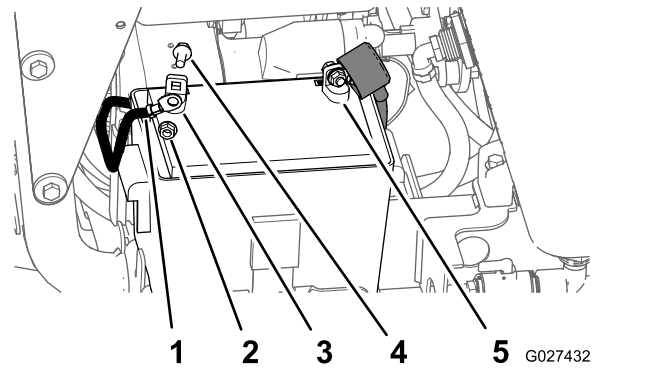

Figure 82
3. Remove the hex-flanged bolt and flanged nut from the negative battery cable and negative (-) battery terminal, and remove the cable from the battery (Figure 82).
4. Slide the red-terminal cover off the positive battery terminal (Figure 82).
5. Remove the hex-flanged bolt and flanged nut from the positive (red) battery cable and the positive (+) battery terminal, and remove the cable from the battery (Figure 82).
3. Install the positive (red) battery cable to positive (+) battery terminal with a flanged bolt and flanged nut (Figure 82).
5. Install the negative battery cable to the negative (-) battery terminal with a flanged bolt and flanged nut (Figure 82).